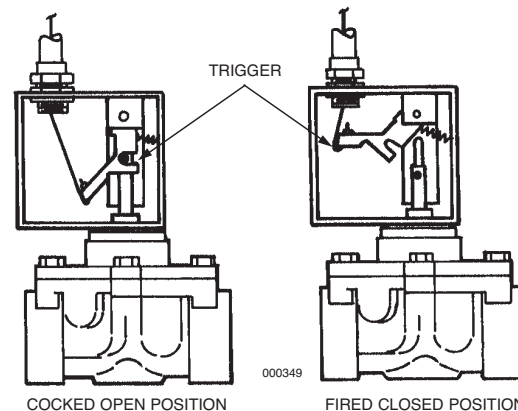

FIGURE 43
13. Cock mechanical gas valve as shown in Figure 43. **Note:** A valve cocking tool is available. Order Part No. 416018.